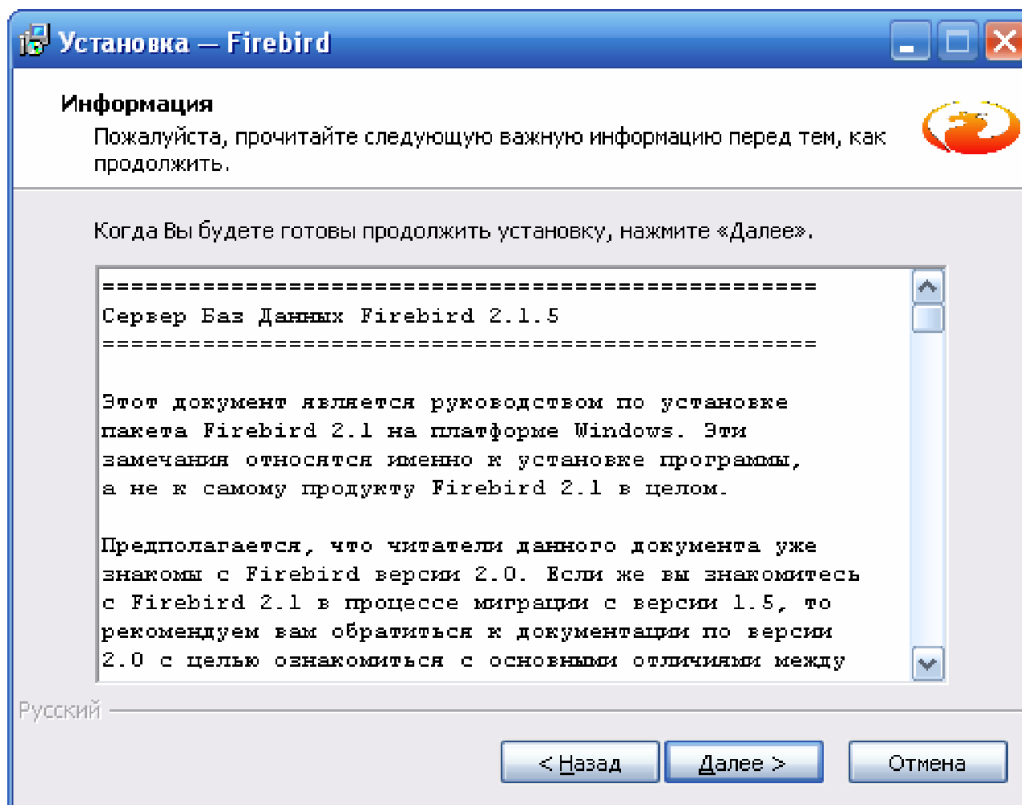

Figure 8. Installing Firebird - step 3.
Step 3 (Figure 8) provides installation information. To continue, click the “Next” button.